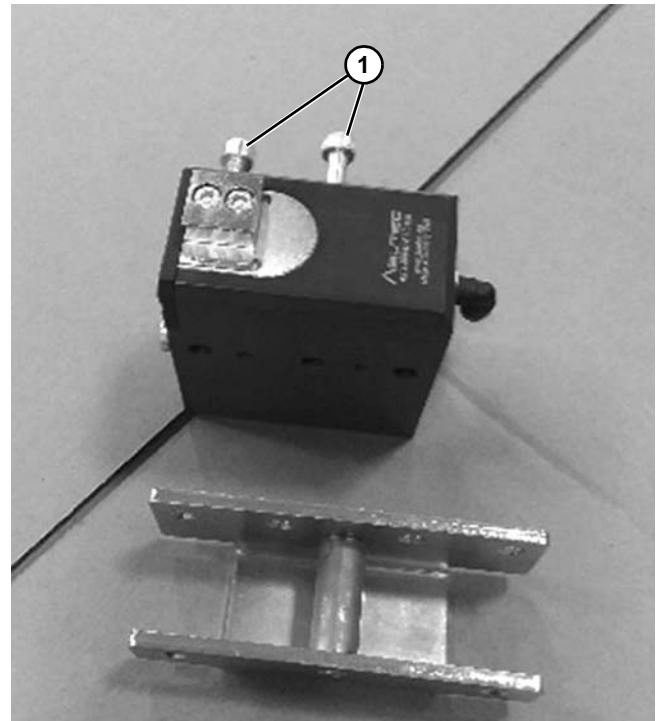

Figure 8
2. Insert the two fasteners (**Figure 8, item 1**) on the opposite side of the pallet stop.